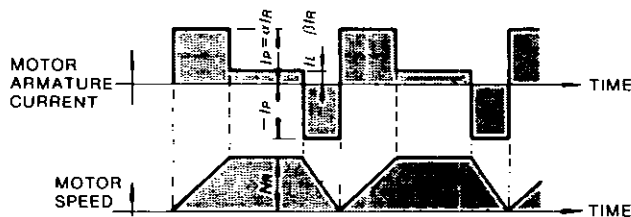

Fig. 4.5 Timing Chart of Motor Armature Current and Speed
- When the motor accelerates, runs at constant speed, and decelerates in a continuing cycle without being at standstill (Fig. 4.5).
The timing chart of the motor armature current and speed is as shown in Fig.4.5. The allowable frequency of operation "n" can be calculated as follows :